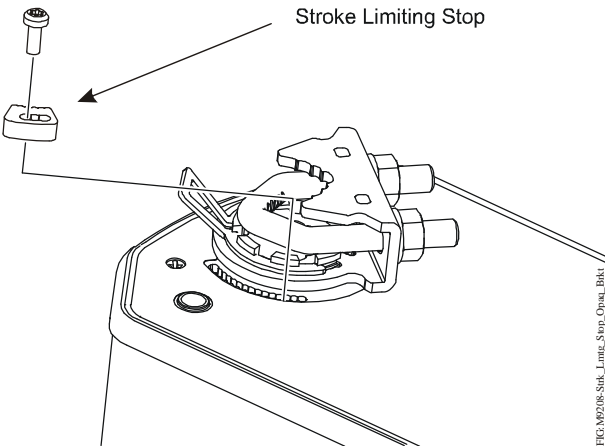

Figure 8: Limiting Rotation Range
- 3. The product label marks hole positions for the M3-0.5 x 10 mm self-tapping screw provided with the adjustable stop kit. Drive the screw through the slot in the adjustable stop and into the actuator face over a marked hole position. (See Figure 8.)